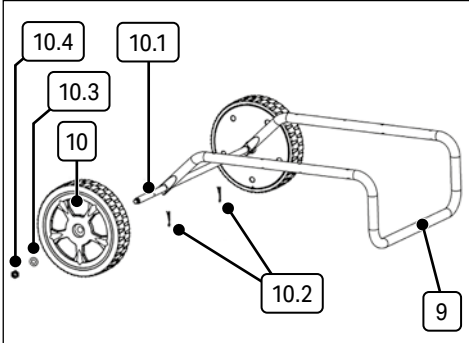

Fig. 1
6.1 Fitting the Wheels (Fig.1)